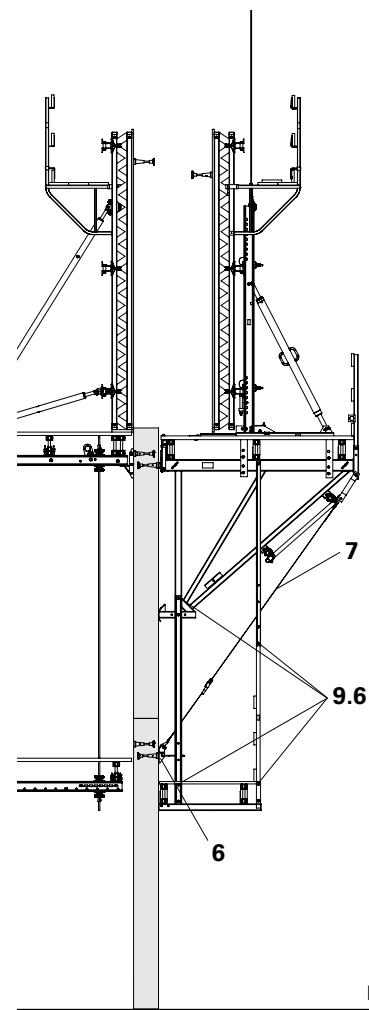

Fig. B1.31
12. Mount wind bracing (6) and (7). (Fig. B1.31)